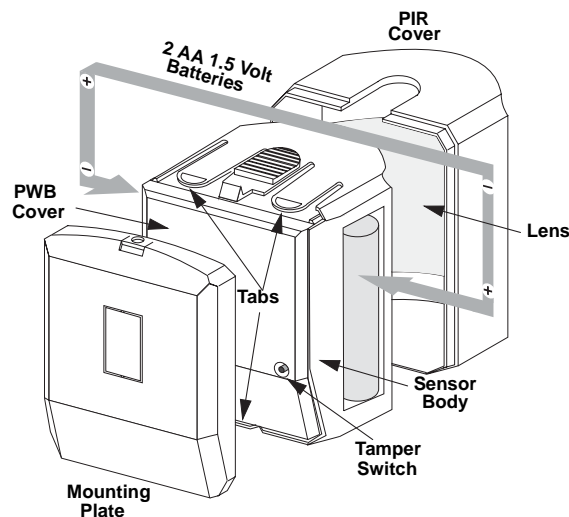

Figure 8. PIR Components
2. Remove the cover by depressing the two tabs on the top and the one tab on the bottom of the sensor body and sliding the cover off (see Figure 8).
3. Remove the front cover of the sensor by depressing the two tabs on the top and the one tab on the bottom of the sensor body and sliding the cover off (see Figure 8)
When battery replacement is necessary, observe proper polarity (as shown in the battery compartment) when installing the new battery. The sensor may be damaged if installed incorrectly. As you look at the battery compartment, on the left side the positive battery end is down and on the right side the positive end is up. When the battery is replaced, wait at least 3 minutes after installing the battery before activating the walk test mode. See Figure 8 for battery locations.